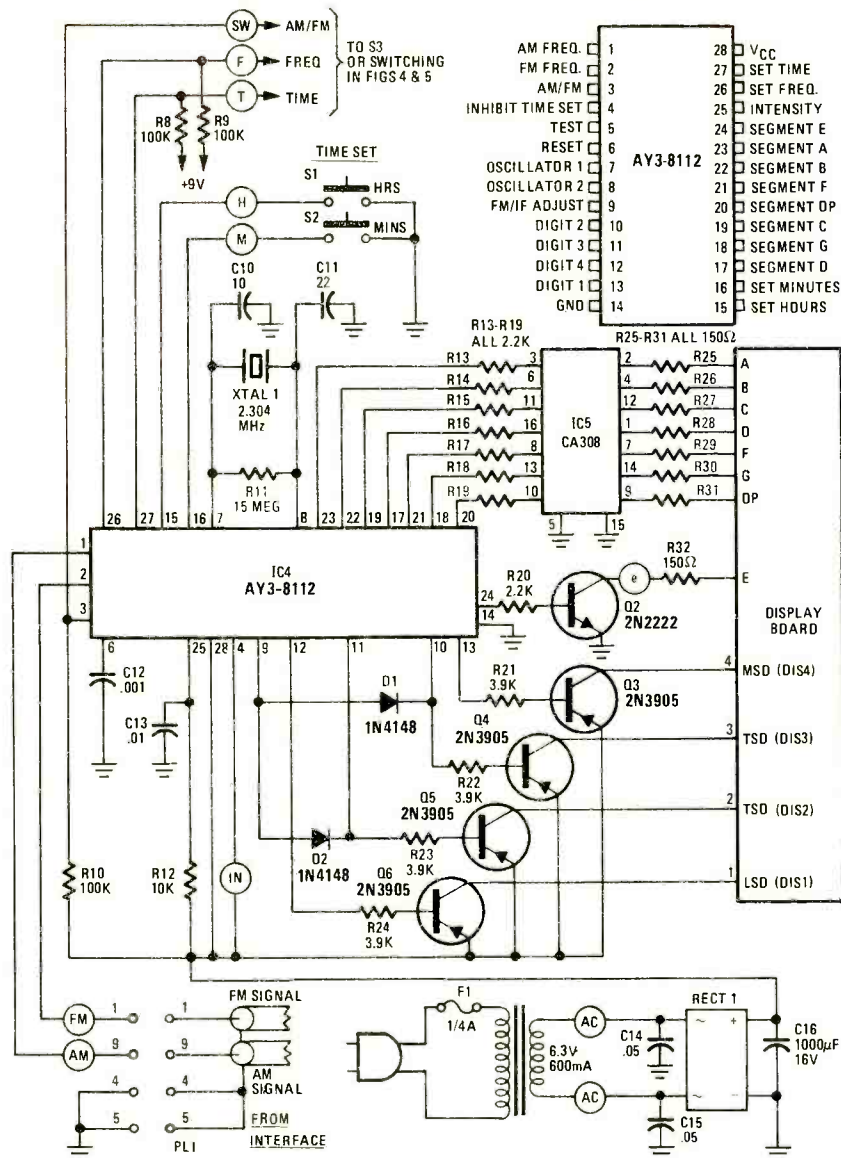

FIG. 3—DISPLAY AND MAIN BOARD WIRING. Most of the parts are on the main board. Display board has three LED's and four seven-segment display devices.
The second section or module (Fig. 3) houses the clock/counter IC. Basically, this IC contains three 3 1/2-digit counters, any one of which can be displayed by energizing certain pins. One counter, set to divide by 6, is the clock. It runs as long as power is applied and is independent of the others. The next counter is the AM frequency display. It reads the radio's
*INSULATED JUMPER FOR CONNECTIONS a-g AND dp ON IC5. SEE FIG. 3.